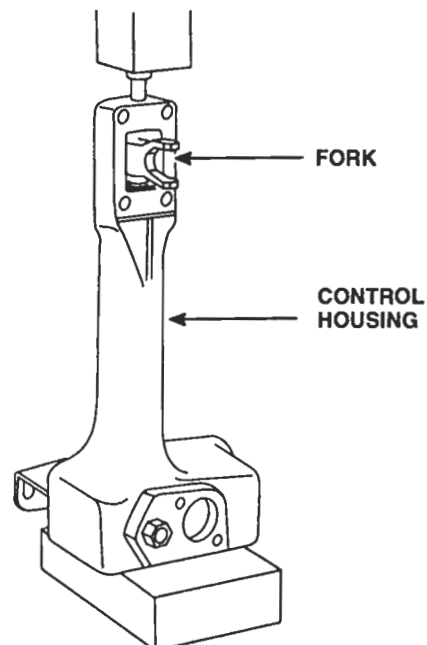

Figure 7. Removing Operating Shaft from Operating Fork
- g. Support the control housing bottom side up on the bed of the press. Use a brass rod and press the operating shaft from the operating fork (Figure 7.) Withdraw the operating shaft, operating lever and bearing as an assembly from the control housing.